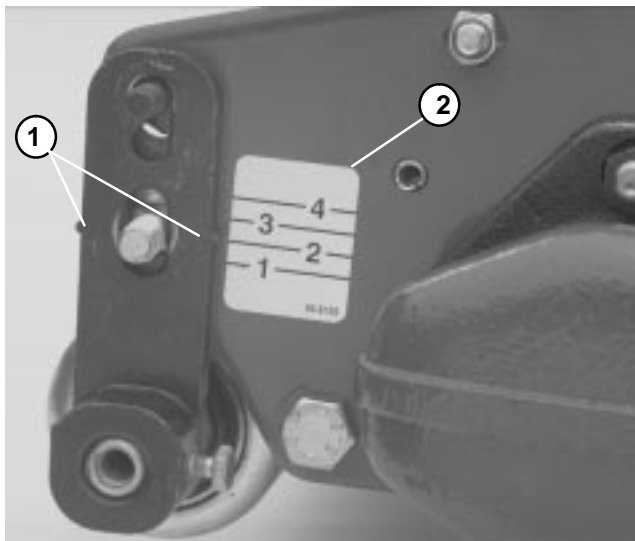
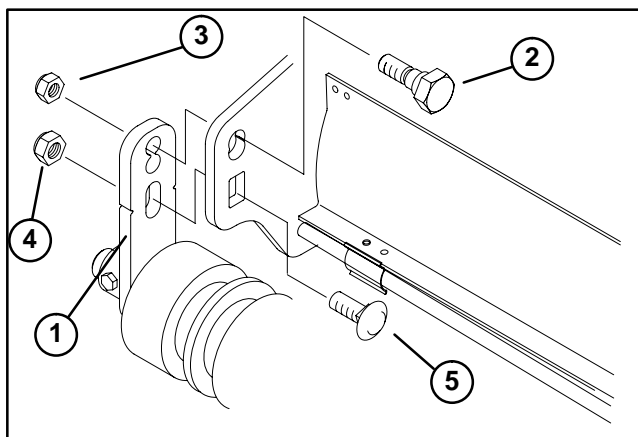

Figure 16
Figure 17
**Note:** There are four positions for the front roller brackets. A more aggressive setting will increase grass removal and provide a cleaner cut, but may cause increased scalping and marking (Fig. 16).
**Note:** The top of the right front bracket is secured to the frame with an eccentric bolt, while the left front bracket is secured with a shoulder bolt (Fig. 17).
A. Insert eccentric bolt (shoulder bolt) through one of the two positions in the figure 8 hole in the frame and one of the top holes of the front bracket (Fig. 17) so the point on the bracket is at the desired position number on the decal (Fig. 16).